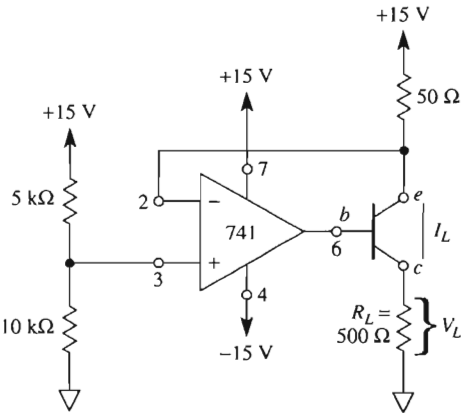

FIGURE P5-7
- 5-7. For the constant-current source shown in Fig. P5-7, (a) draw the current direction, the emitter arrow, and state if the transistor is *nnp* or *pnp*; (b) find I ; (c) find V_L .